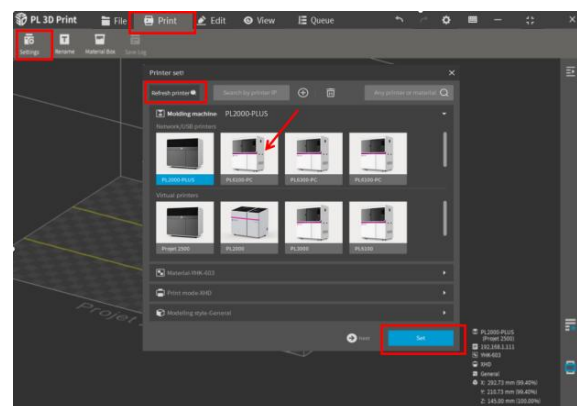
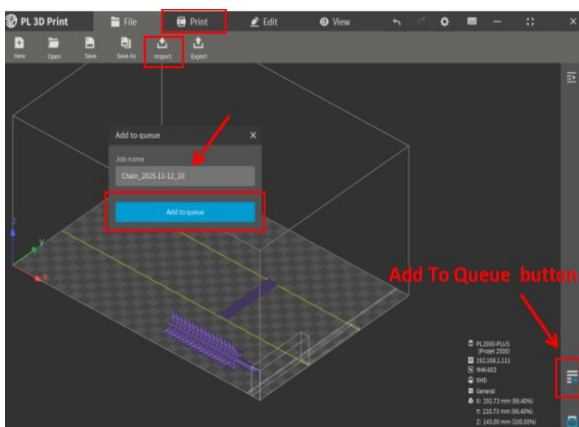

fig. A-4 Connect Printer
fig. A-5 Add to Queue
Click **Print > Settings > Refresh**, select your printer, then click **Set** to connect (fig. A-4, fig. A-5)
- Import the **.stl** file via **File > Import**, click **Add to Queue**, enter a filename, click **Add to Queue** again to send it to the printer, and it appears in the **Print Queue** waiting list (figs. A-5, A-6).